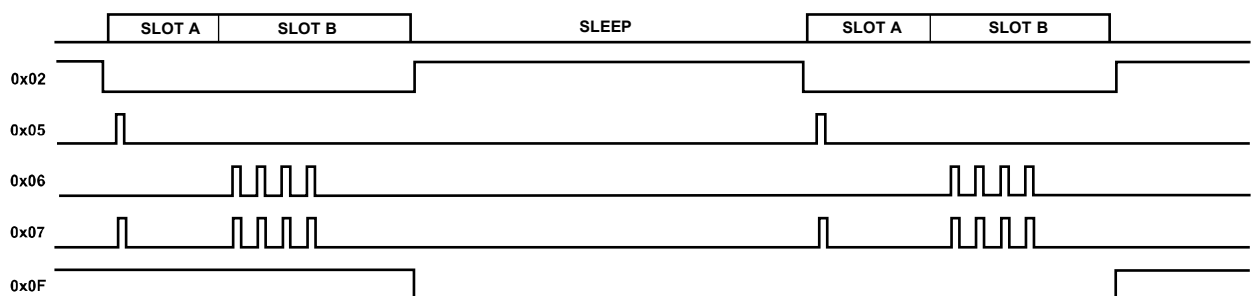
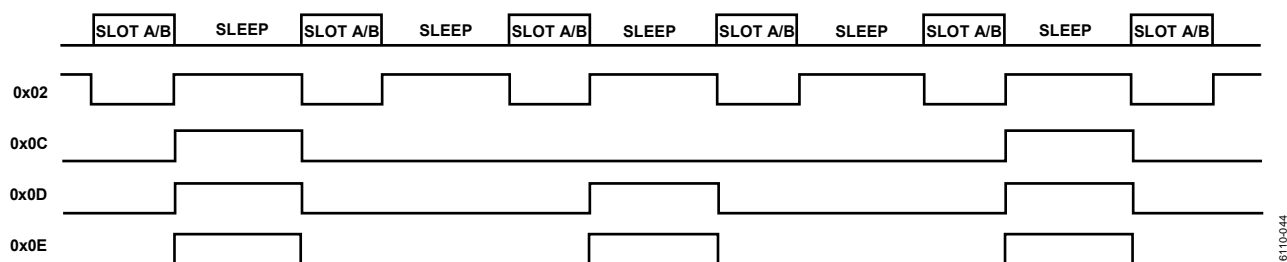

Figure 26. Optional Timing Signals Available on GPIOx—Register 0x0B, Bits[12:8] or Bits[4:0] = 0x02, 0x05, 0x06, 0x07, and 0x0F
Figure 27. Optional Timing Signals Available on GPIOx—Register 0x0B, Bits[12:8] or Bits[4:0] = 0x02, 0x0C, 0x0D, and 0x0E
The various available timing signals are controlled by the settings in Register 0x0B. Bits[12:8] of this register control the timing signals available on GPIO1, and Bits[4:0] control the timing signals available on GPIO0. All of the timing signals described in this data sheet are available on either (or both) of the GPIO0 and GPIO1 pins. Timing diagrams are shown in Figure 26 and Figure 27. The time slot settings used to generate the timing diagrams are described in Table 16.
**Table 16. ADPD1080 Settings Used for Timing Diagrams Shown in Figure 26 and Figure 27**